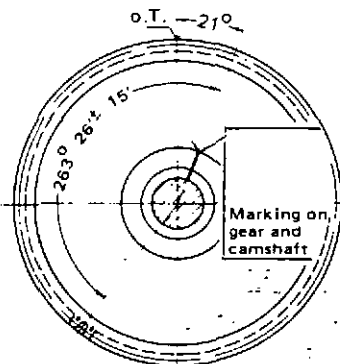

Fig. 2
3. The camshaft gear has a scribe mark which must align with the camshaft scribe mark for proper alignment. (See Figure 2.)